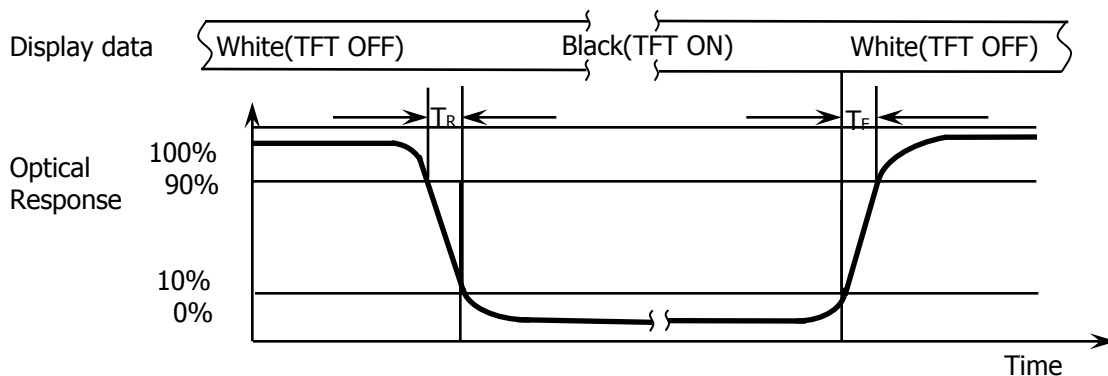

Figure 3. Uniformity Measurement Locations (13 points)
4. The White luminance uniformity on LCD surface is then expressed as : $\Delta Y = \text{Minimum Luminance of 5(or 13) points} / \text{Maximum Luminance of 5(or 13) points}$ (see FIGURE 2 and FIGURE 3).
The White luminance uniformity on LCD surface is then expressed as : $\Delta Y5$ = Minimum Luminance of five points / Maximum Luminance of five points (see FIGURE 2) , $\Delta Y13$ = Minimum Luminance of 13 points /Maximum Luminance of 13 points (see FIGURE 3).